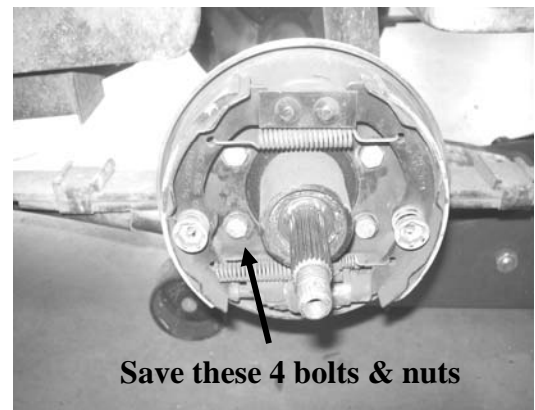

Fig 2 Original drum brake assembly
2. Remove brake assembly and cable bracket from vehicle by removing the four small bolts that attach the assembly to the axle. Save all fasteners. (See Fig 2)